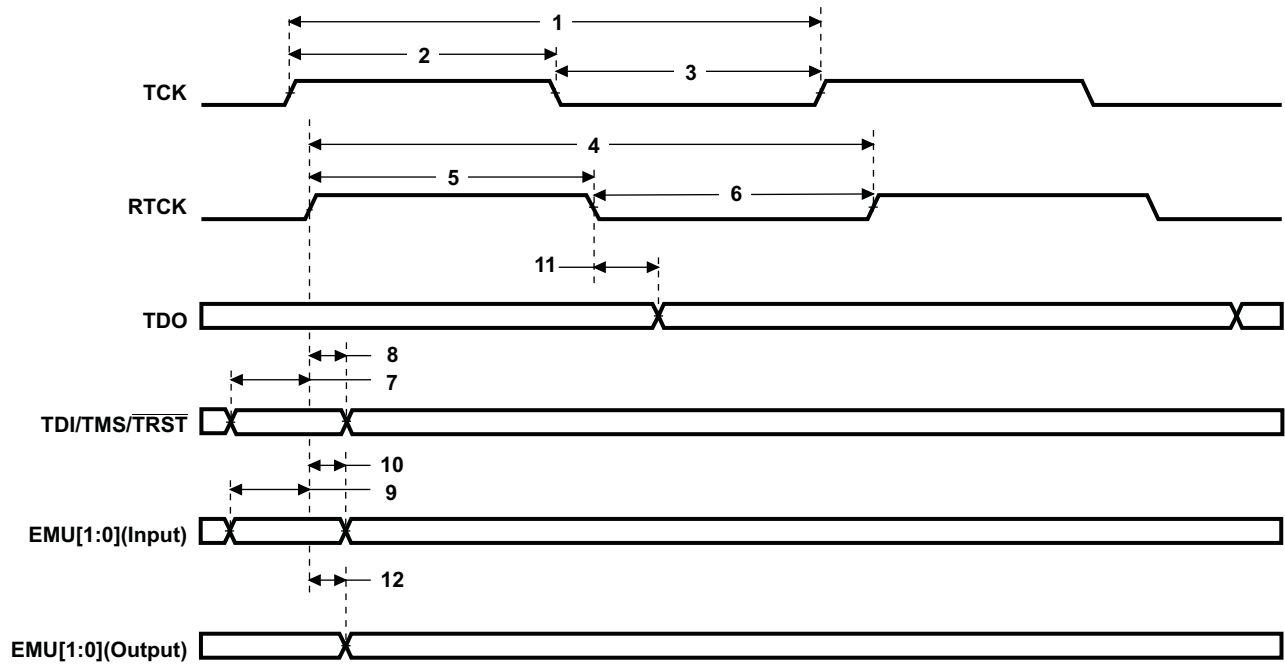

Figure 7-97. JTAG Test-Port Timing
7.29.2 JTAG Test-Port Electrical Data/Timing**Table 7-150. Timing Requirements for JTAG Test Port^{(1) (2)} (see Figure 7-97)**
Table 7-151. Switching Characteristics Over Recommended Operating Conditions for JTAG Test Port⁽¹⁾ (see Figure 7-97)